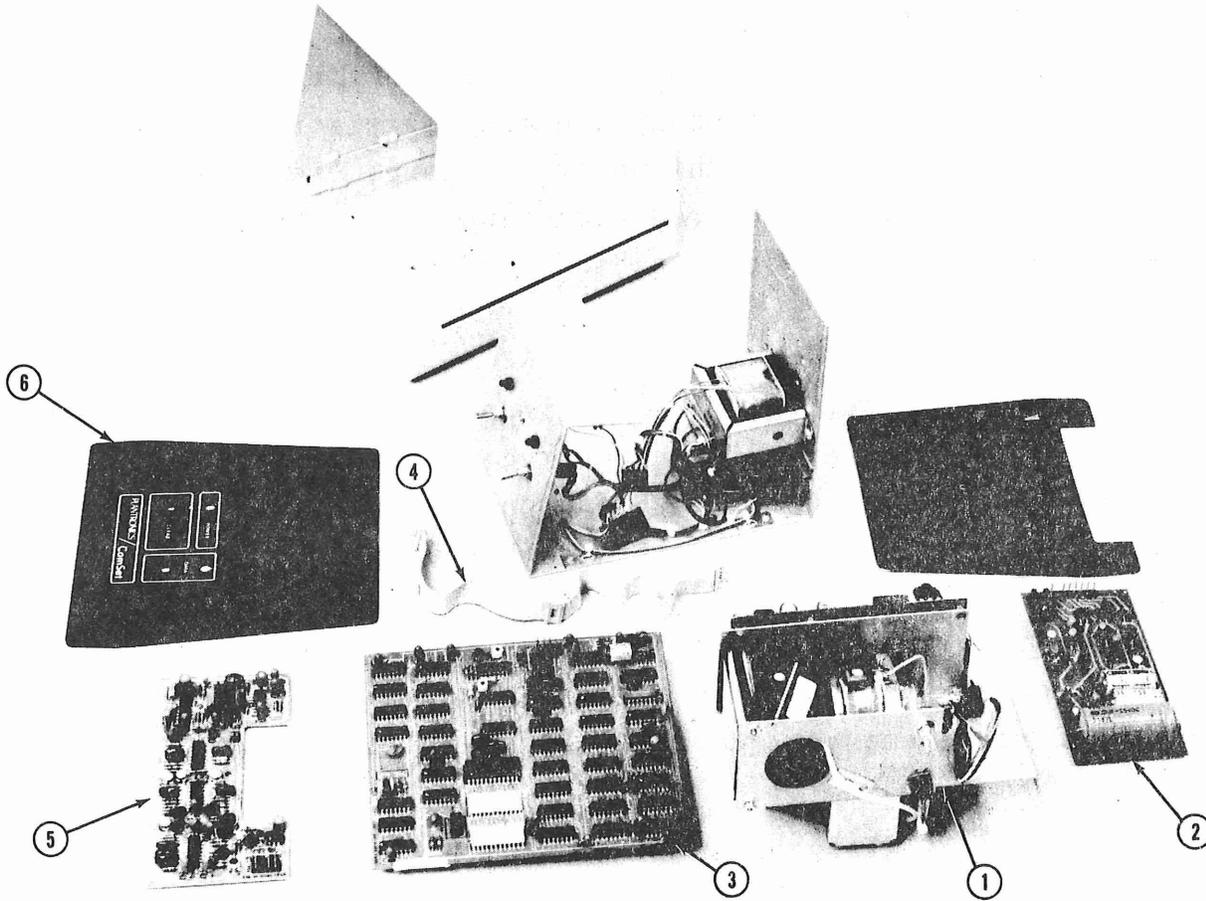

Figure 4-11. Disassembled Terminal
4.32 Figure 4-11 is a pictorial description of the replaceable subassemblies. The following table indicates the Plantronics part number, description and reference number on figure 4-11 for these subassemblies.